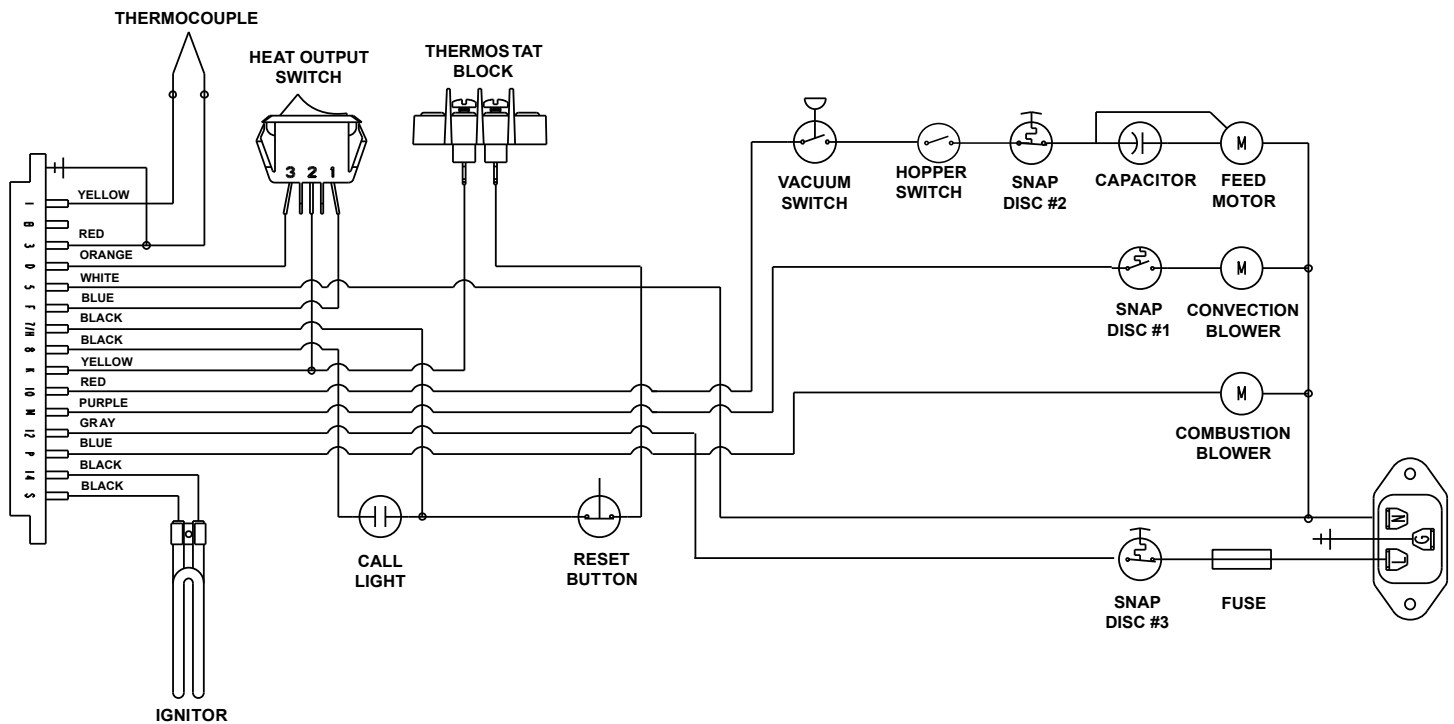

Figure 29.1
21. Wiring Schematic See Figure 29.1 below